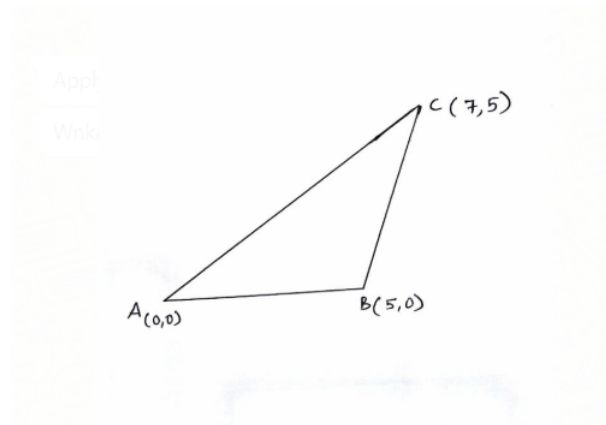

Figure 3
2. (a) Determine the force in each member of the pin-jointed plane truss shown in Figure 3 using method of tension coefficients. [7M]